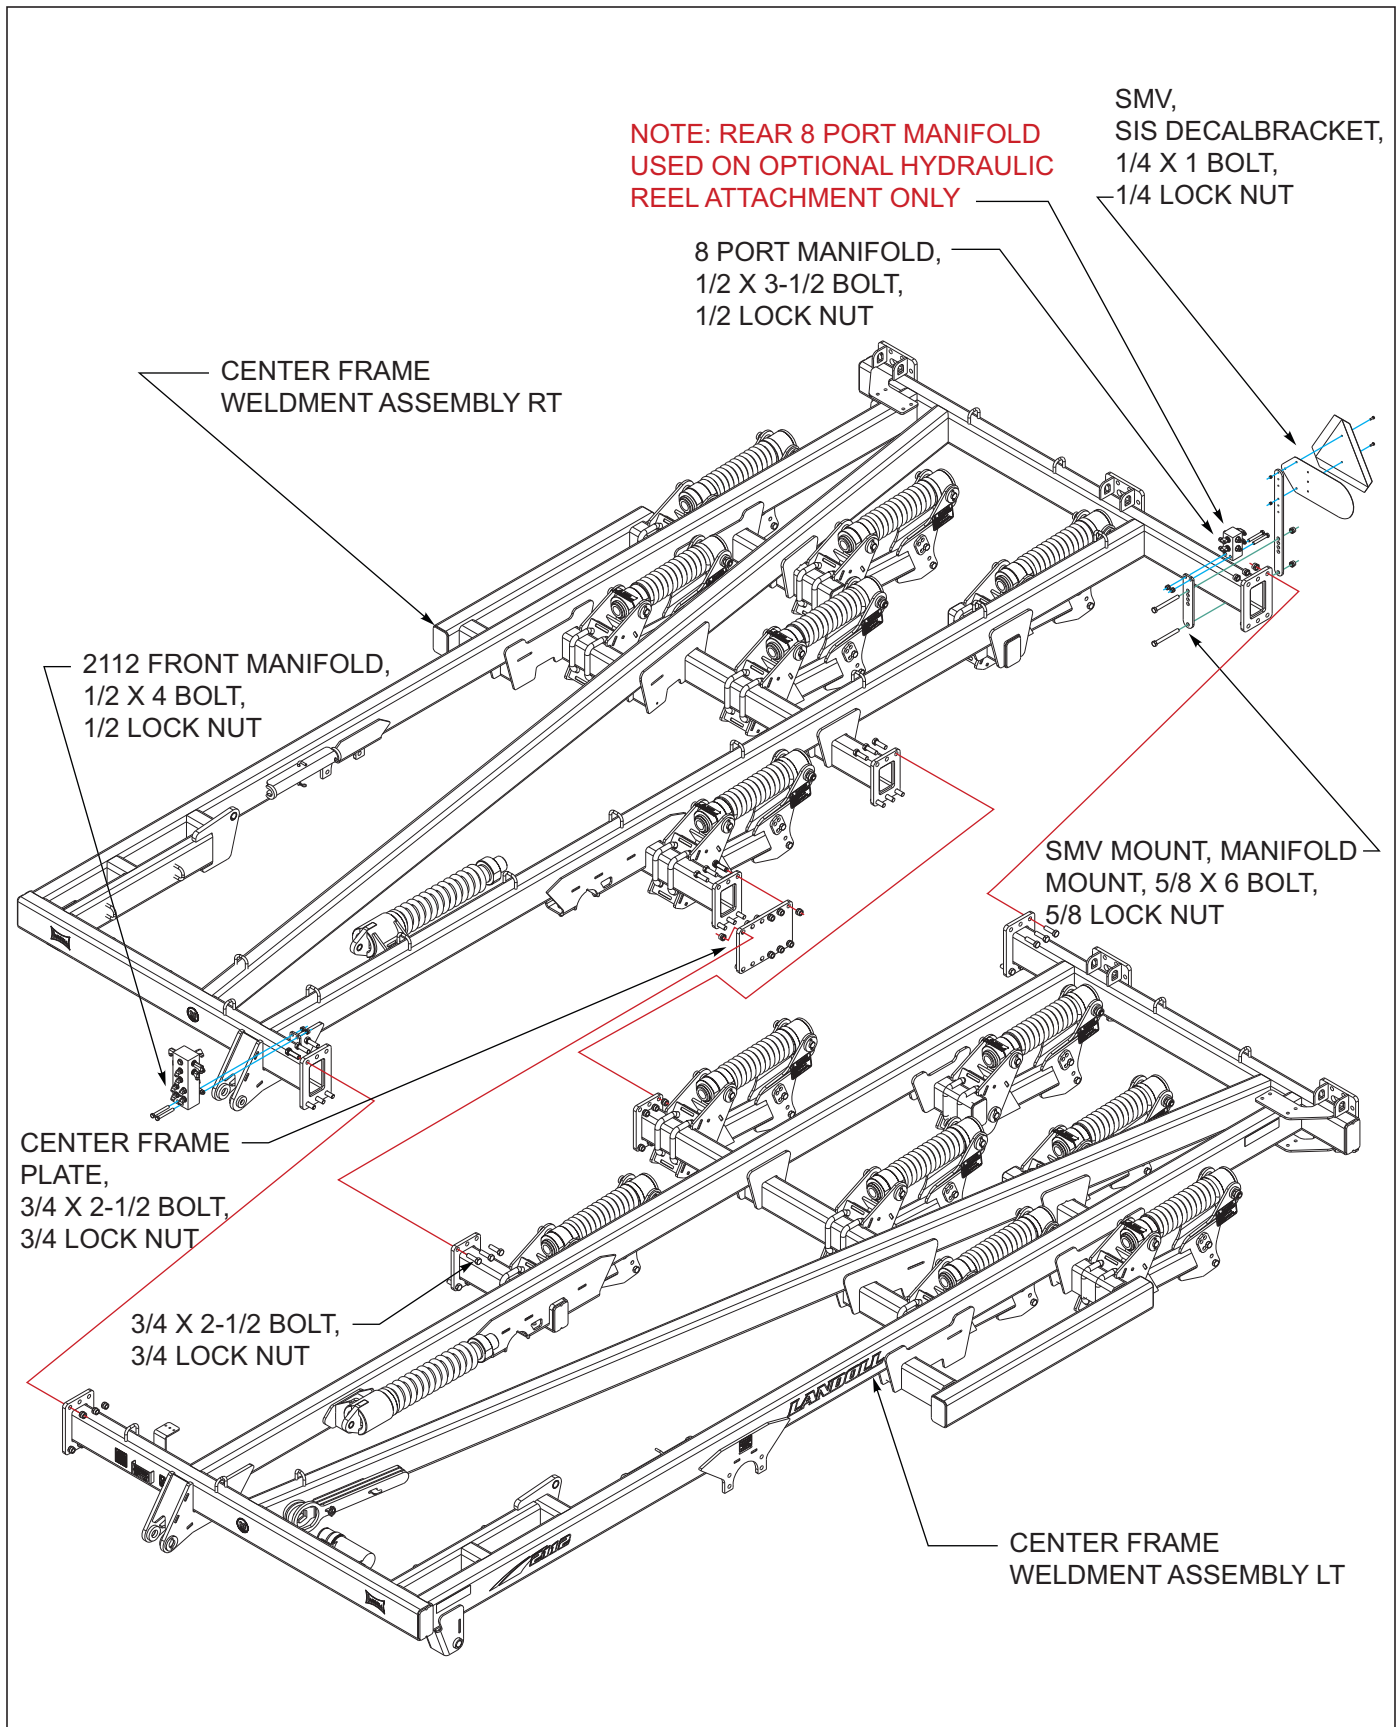

Figure 3-4: Center Frame Assembly 2112-13-15
1. Bolt the two center frame halves together using 3/4 x 2-1/2 bolts and 3/4 locknuts See Figure 3-4.